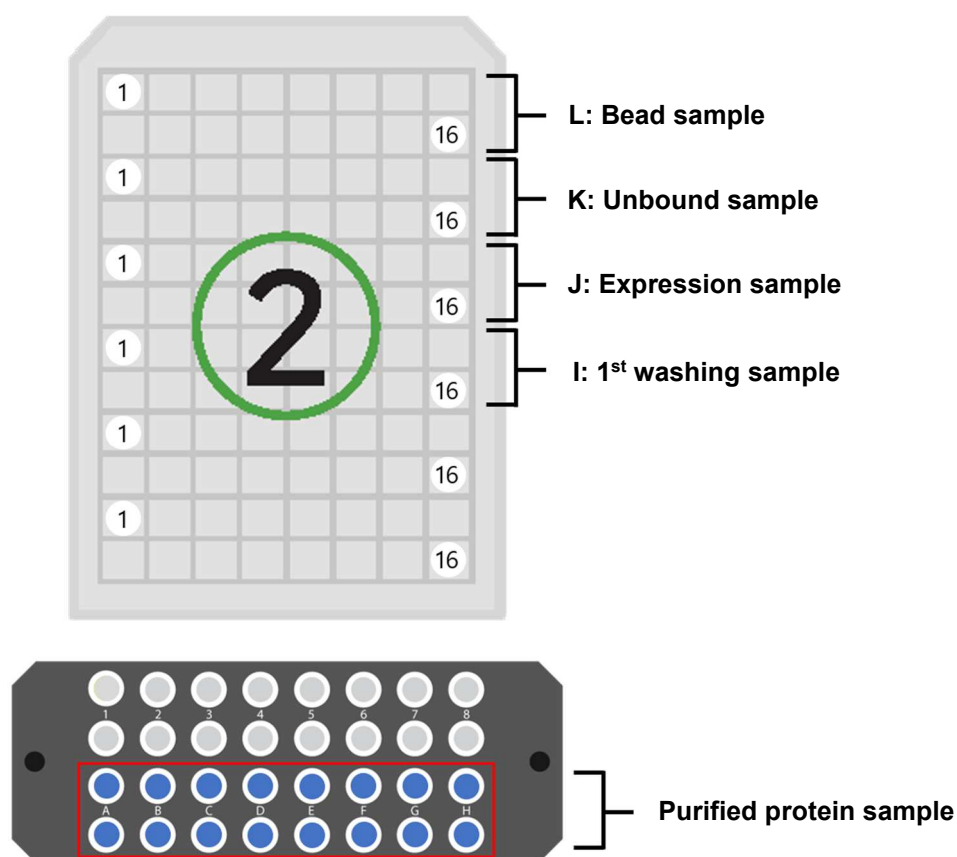

Figure 5. Samples for each row of Cartridge ②.
If necessary, reaction samples from protein expression and purification can be recovered from the L, K, J, and I rows of Cartridges ② as shown in Figure 5.